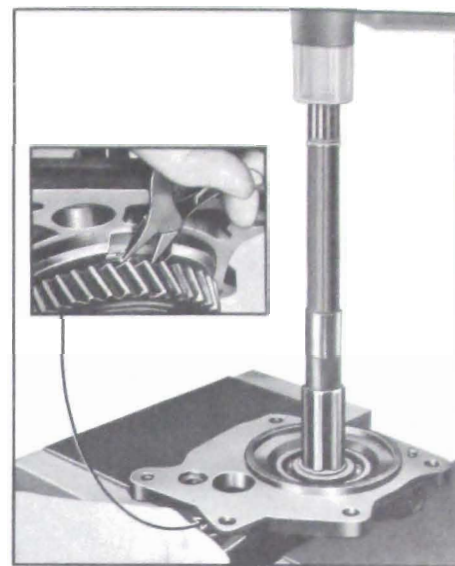

Figure 4-61—Removing Rear Bearing Retainer
out of retainer. See Figure 4-61.
20. Remove the mainshaft rear snap ring. Support first and second speed clutch assembly as shown in Figure 4-61, and press on rear of mainshaft to remove shaft from rear bearing, first speed gear, and synchronizing ring first and second speed clutch sliding sleeve and first speed gear bushing.